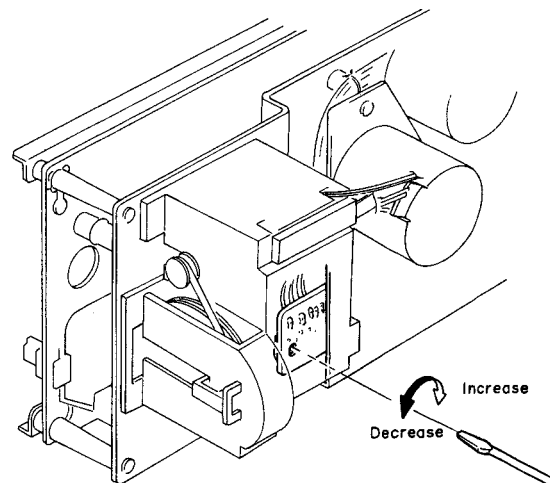

Fig. 4.3
- (1) Remove the Top Cover.
- (2) Connect a Frequency Counter to the Output Jack.
- (3) Load a 3 kHz Speed Wow/Flutter Tape (DA09006A) and play it back.
- (4) Referring to Fig. 4.3, adjust the Tape Speed Adjustment Volume VR407 on the Speed Cal. P.C.B. to obtain 3,000 Hz on the Frequency Counter.